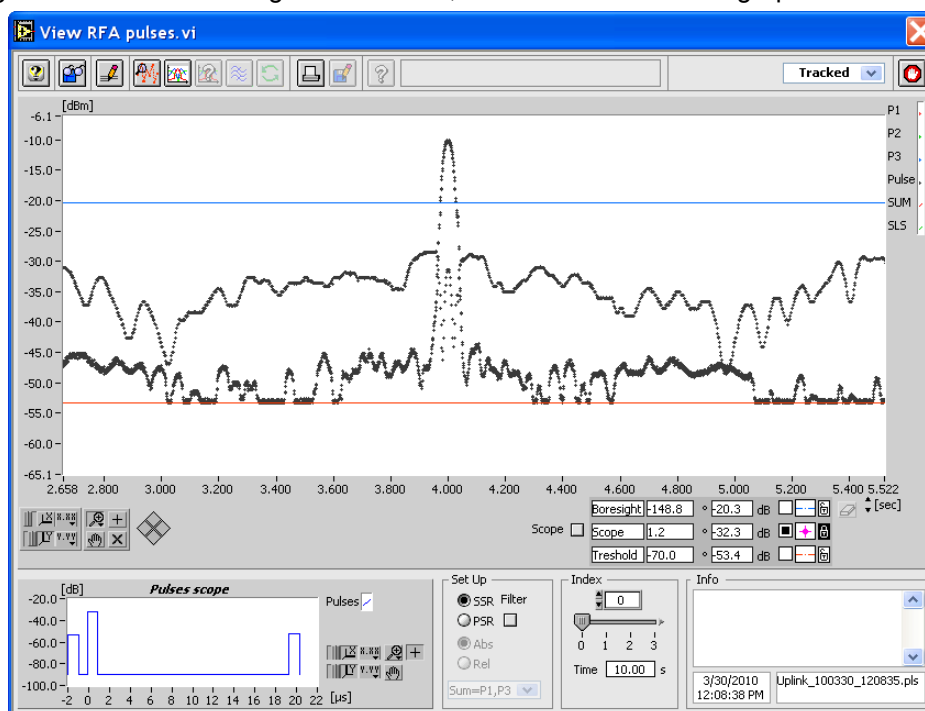

Figure 13: HPD Extraction Threshold Control
8. The blue cursor, **Boresight**, determines the detection of boresight. To have correct boresight detection, this cursor should be set above the sidelobes and lower than the boresight maximum of the radar of interest. When a number (default: 5) of pulses above boresight are detected (taking into account the selected timing and extraction method), boresight is declared. Using the boresight positions, the revolution time is calculated. Figure 13 is a good example of the correct positioning of the **Threshold** and **Boresight** cursors